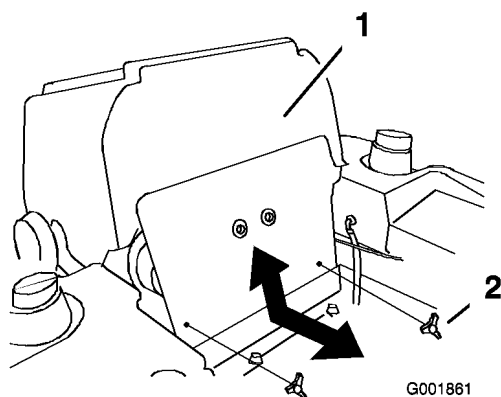

Figure 67
3. Tilt the seat forward and remove the front engine panel (Figure 67).
7. Install the front engine panel (Figure 67).